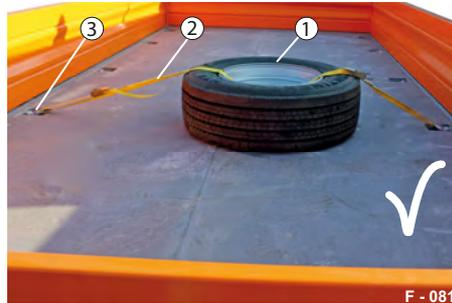

Fig. 81 Example: Spare wheel secured
- ▶ Lash the spare wheel (Fig. 81/1) to the loading platform with suitable lashing equipment (Fig. 81/2) at the lashing points (Fig. 81/3).